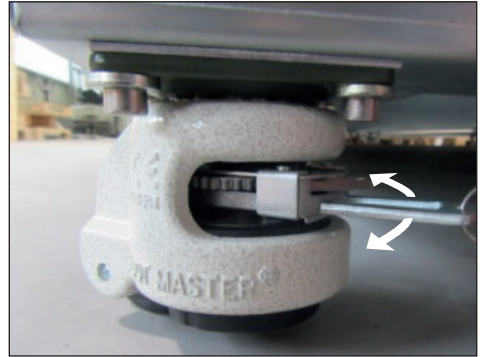

Fig. 10 To retract and extend the stand, actuate the ratchet lever
2. To retract and extend the stand, actuate the ratchet lever (Fig. 10).